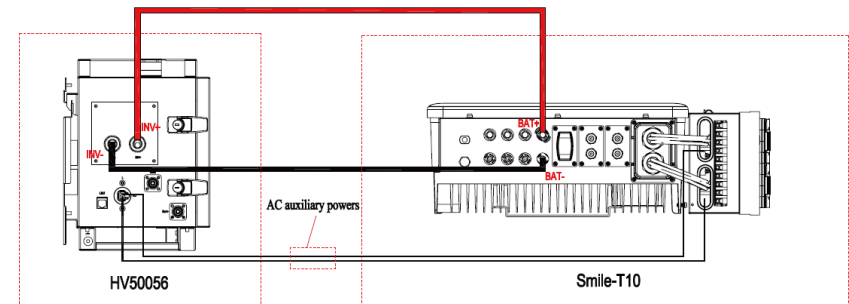

Figure 27 Connection of the Power Cables and AC Auxiliary Cable
Step 8 Please connect one DC power cable from INV+ port on HV50056 to BAT+ port on SMILE-T10-INV, and another DC power cable from INV- port on HV50056 to BAT- port on SMILE-T10-INV. The AC auxiliary power cables which have been prewired onto the inverter, shall be connected to the AC auxiliary port on HV50056, as shown in Figure 27.